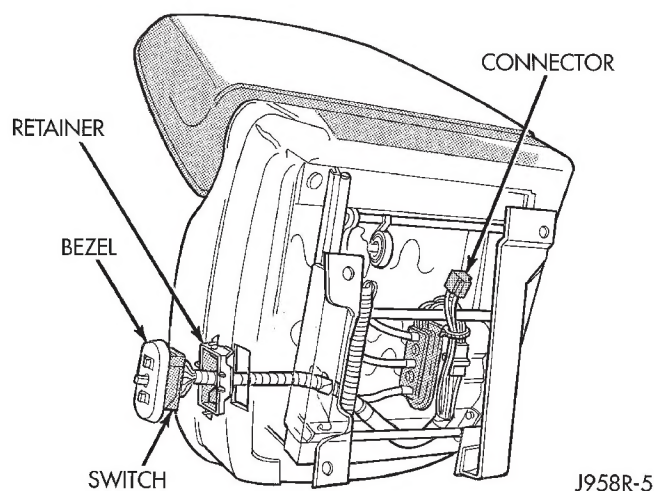

Fig. 2 Power Seat Switch Remove/Install
- (1) Disconnect battery negative cable.
- (2) Reach under seat and release switch and bezel retainer snap clips (Fig. 2), while pulling gently on switch and bezel assembly.